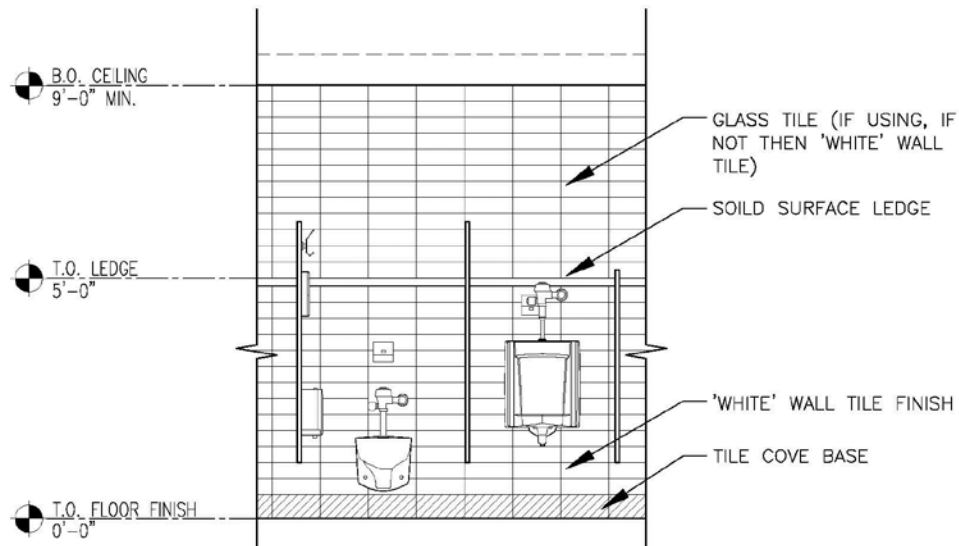

Figure 1.09.2B
- A. Restrooms colors will be limited to three (3) distinguishable values of white to grey color scale (preferably warm grey), a single accent color in specific locations and natural finished stainless steel.
- D. Each restroom is limited to (1) one color.
- E. Behind water closets where wall field tile ends (approx. 60" AFF) glass color accent tile, starting with a full height tile, will run to the ceiling as shown in *Figure 1.09.2B*.